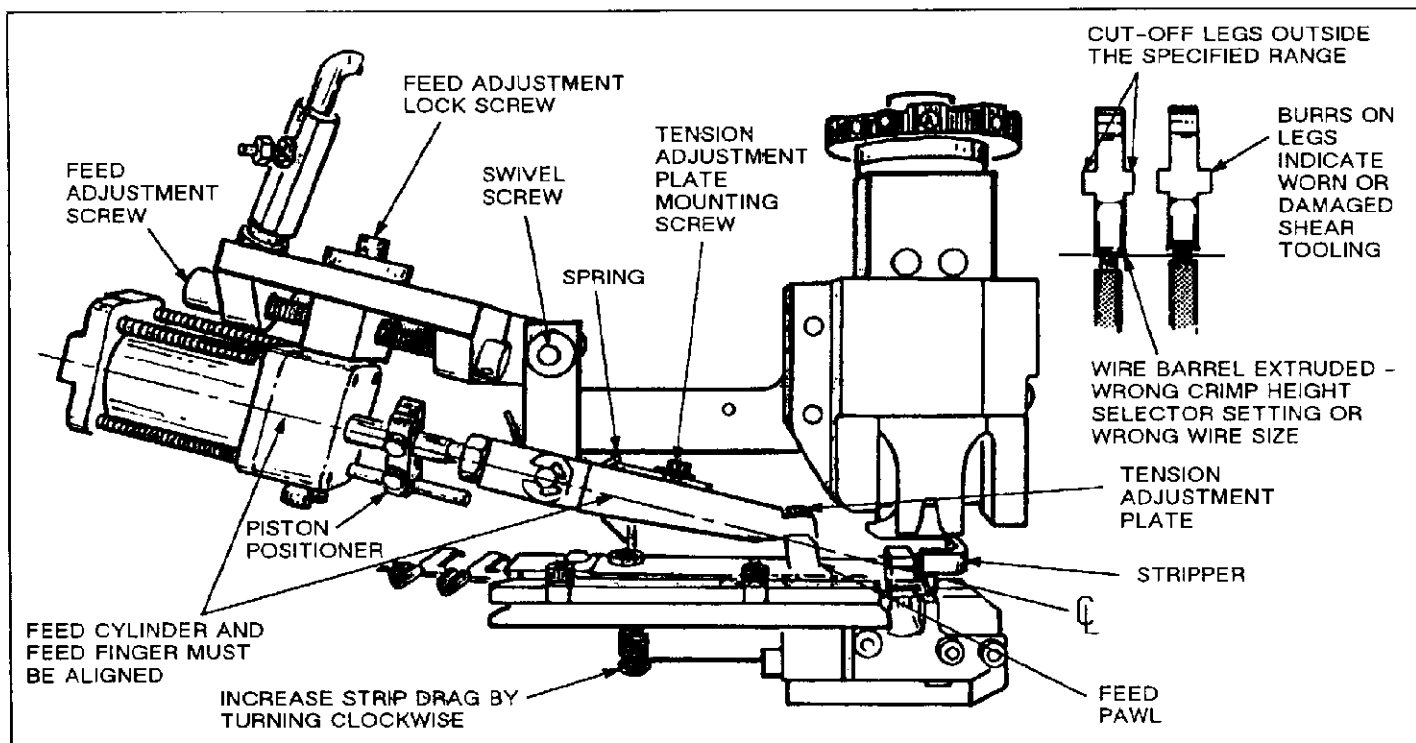

Fig. 6
##### 5.1. Contact Strip Feed Adjustment (Figure 6)
4. Loosen the two screws in piston positioner as shown in Figure 6.
### 5.4. Feed Pawl Adjustment (Figure 6)
### 5.5. Stripper Adjustment (Figure 6)
### 5.6. Feed Air Cylinder Angle Adjustment (Figure 6)
### 5.7. Strip Drag Adjustment (Figure 6)
## 5.8. Feed Finger Spring Tension Adjustment (Figure 6)